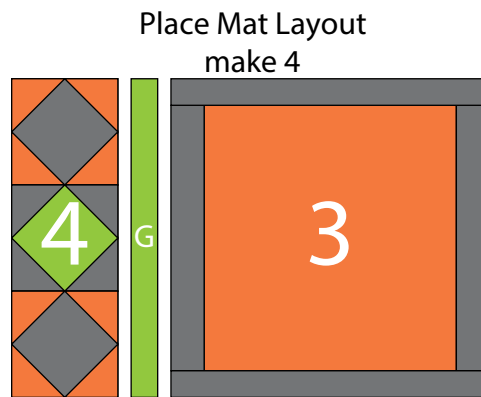

Fig. 19
(Follow the Place Mat Layout in Figure 19 while assembling the place mats tops.)
20. Sew together (1) Block Four strip, (1) 1 ½" x 12 ½" Fabric G strip and (1) Block Three square, in that order from left to right, to make (1) Place Mat top (Fig. 19). Repeat to make (4) Place Mat tops total.